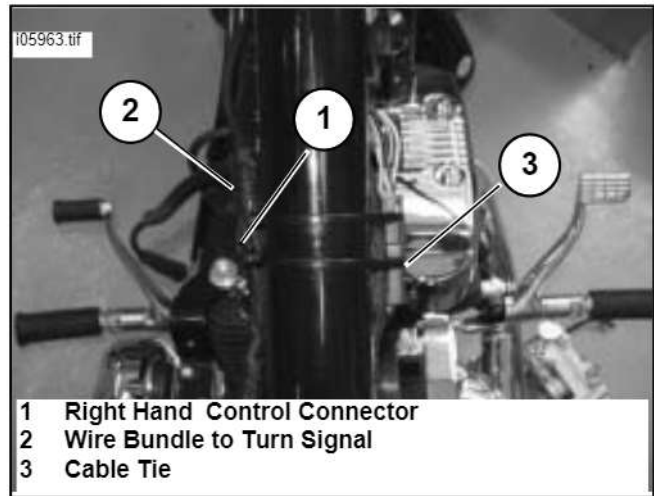

Figure 2. (Securing Left Hand Control Connector W/Cable tie)
4. See Figure 2. Remove a second cable tie from the kit and secure the instrument wire bundle and a hand control connector to the left side of the frame as shown. Wrap the cable tie around the hand control connector and tight to the left side of the backbone frame.